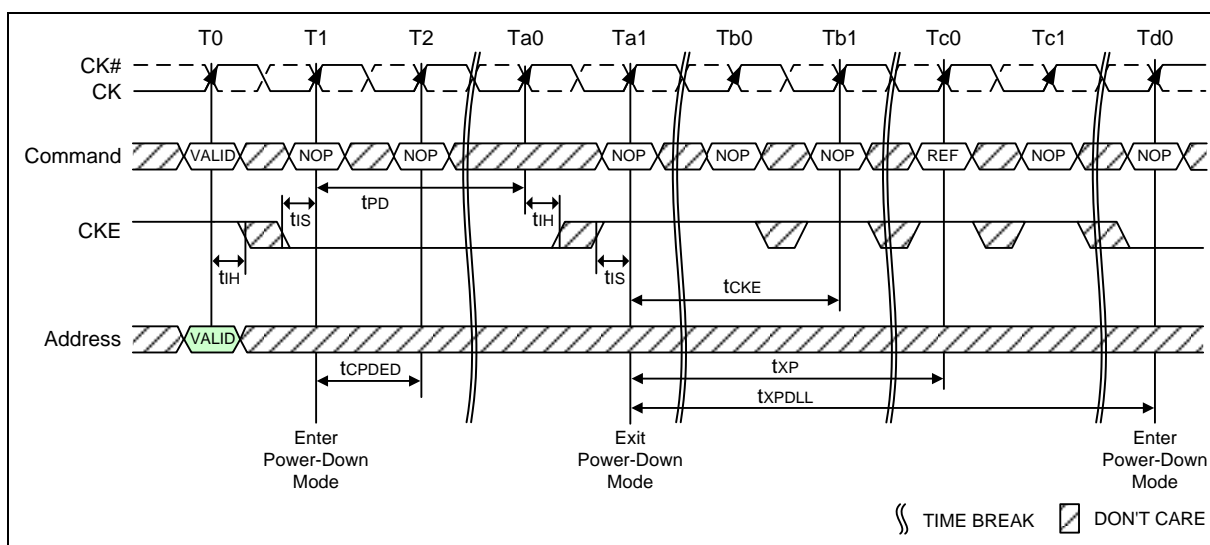

Figure 70 – Power-Down Entry/Exit Clarifications - Case 2
- 2)  $t_{XPDLL}$  must be satisfied (referenced to the registration of PD Exit) before the next power-down can be entered. A detailed example of Case 2 is shown in Figure 70.